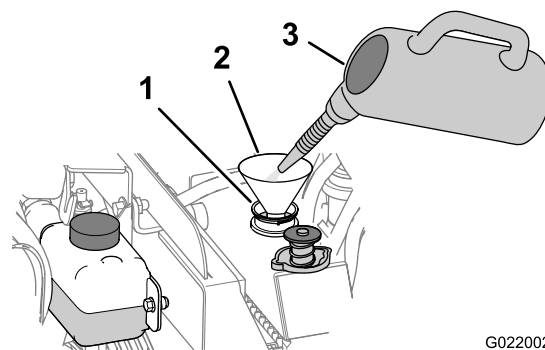

Figure 79
- C. Add a cooling system cleaning solution to the to the radiator through the filler neck (Figure 79).